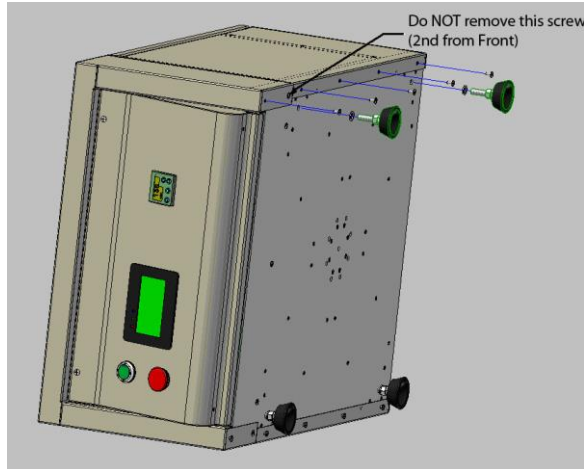

Figure 1. Z-Bracket Installation
It is recommended to secure the centrifuge to a bench top prior to operation. Z-brackets are included with the instrument for this purpose. To install please refer to the steps below and Figures 1 and 2:
5. Turn the machine on its left side as shown in Fig. 1 (below).
7. Place the Z-Bracket onto the base of the machine as shown in Figure 1 making sure that it is oriented so that the screw that was left in the bottom is inside the large hole in the Z-Bracket.
8. Re-install the five (5) screws and two (2) isolator feet that were removed in step 6 above.
10. The unit can now be bolted to the table using 1/4 inch bolts or lag screws. The screws should go through the rubber isolators in the Z-Brackets. It is suggested that the screws not be fully tightened so that the Z-Bracket is "floating" but is still restrained from moving by the screws as shown in Fig 1.